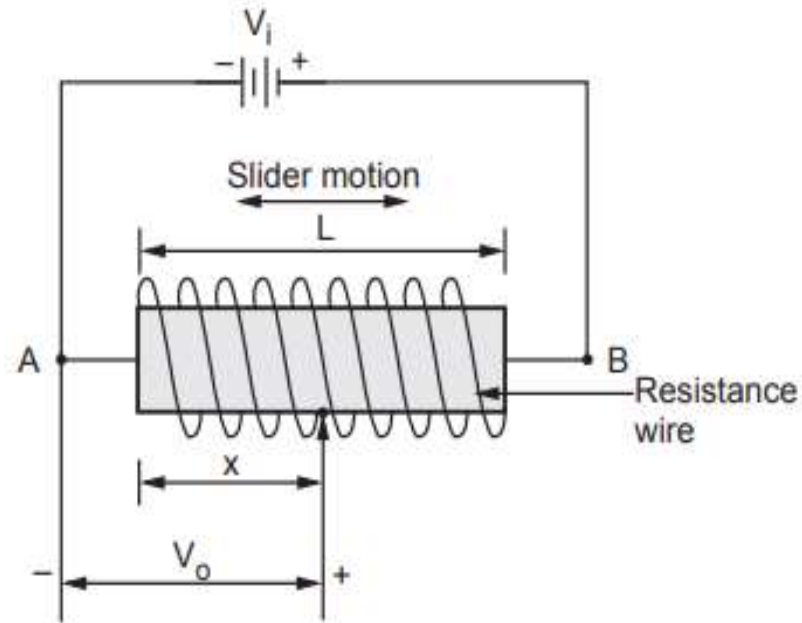

Fig. 1.9.1 Linear potentiometer
- Fig. 1.9.1 shows example of linear potentiometer.